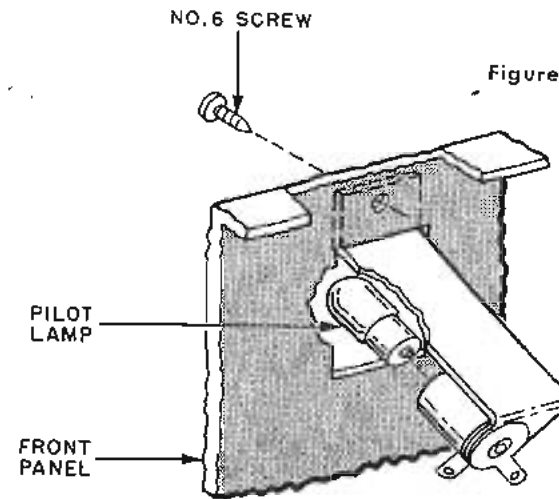

Figure 1-4
Step 1-E Mount the pilot lamp socket, SO-1, in the rectangular hole in the center of the panel as shown in Fig. 1-4.